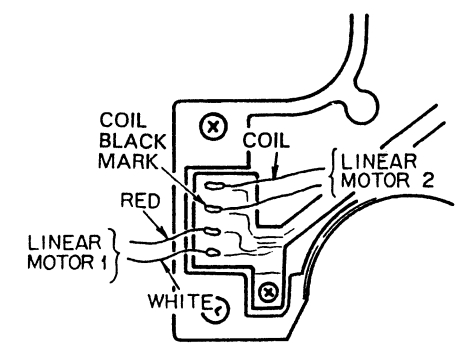

Figure 1
1. Install the wire rod of the linear motor as shown in Fig. 1